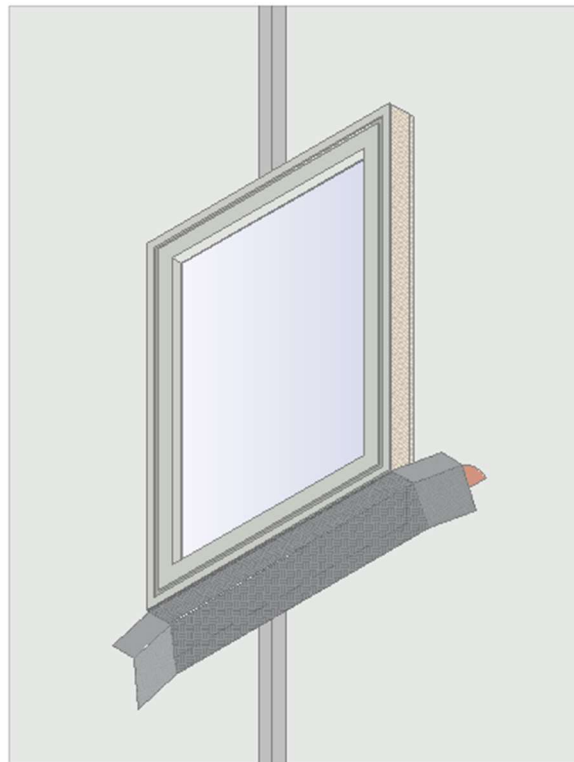

Figure 4
- Offer up the membrane and smooth on to the frame in a straight line, gently pressing the membrane into the correct position ensuring there are no wrinkles in the membrane. (Figure 4).